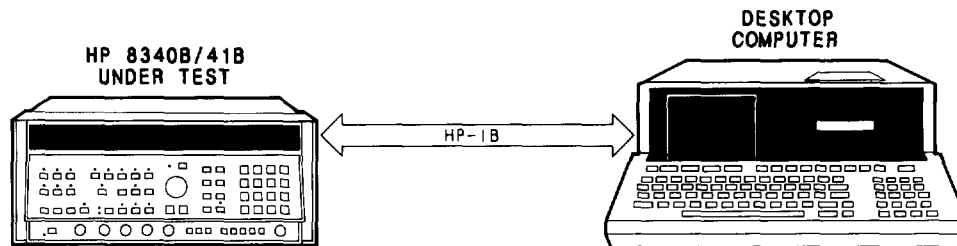

Figure 4-22. HP 8340B/41B HP-IB Operation and Verification Test Setup
1. Connect the equipment as shown in Figure 4-22. Enter the program shown in Table 4-32 if the HP 85F is used, or the program in Table 4-33 if the HP 9826A or 9836A is used. Press the RUN key. The program will display the DUT's status bytes similar to Table 4-31. After the program goes through the output loop routine about two times, all status bits should be "0" and the DUT should be in LOCAL mode (front panel REMOTE indicator not ON).